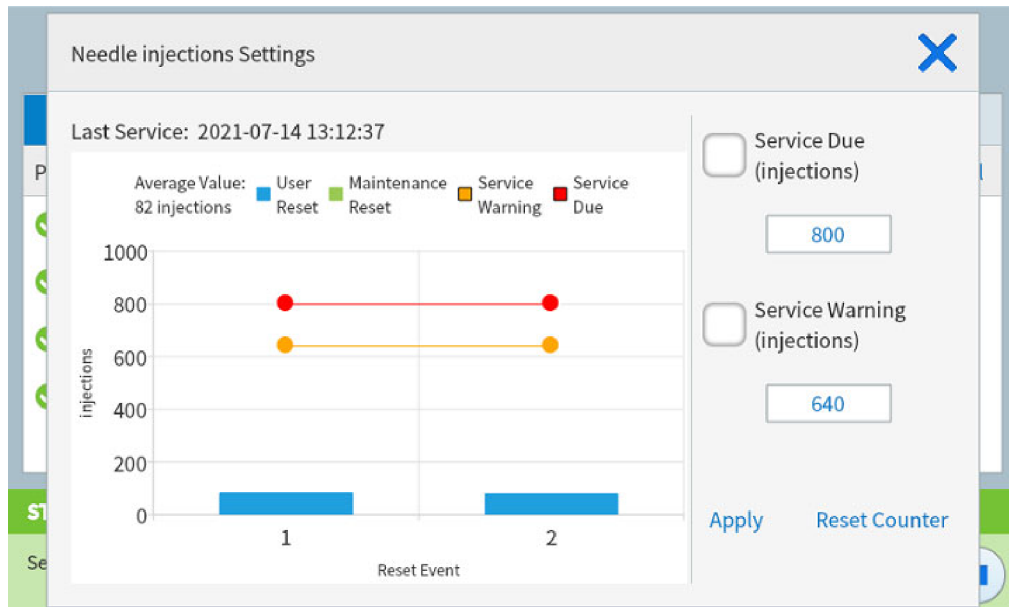

Figure 44. Settings dialog box
2. Select the **Details** listing for the counter you want to change. The dialog includes a trend plot for past reset events for this counter. See Figure 44.